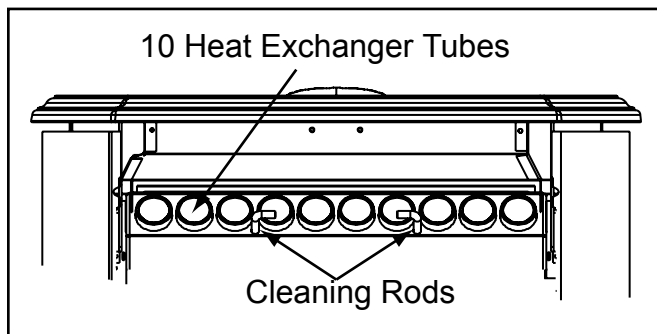

Figure 30.1
- Allow the appliance to completely cool down before pulling the cleaning rods. Turn the thermostat on and then immediately off to start the exhaust blower on its cycle time. It will pull fly ash out the exhaust instead of into the room. Open the cast hinged face to access the 2 cleaning rods. **Figure 30.1.**